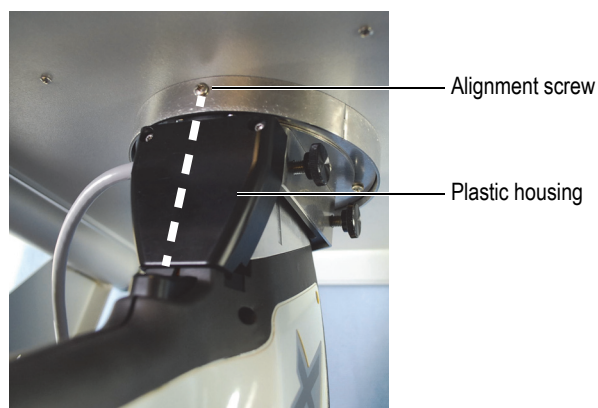

Figure F-14 Analyzer-adaptor assembly installed on the workstation
6. The probe-adaptor plastic housing must be centered with the locking-fixture alignment screw (see Figure F-14 on page 173).